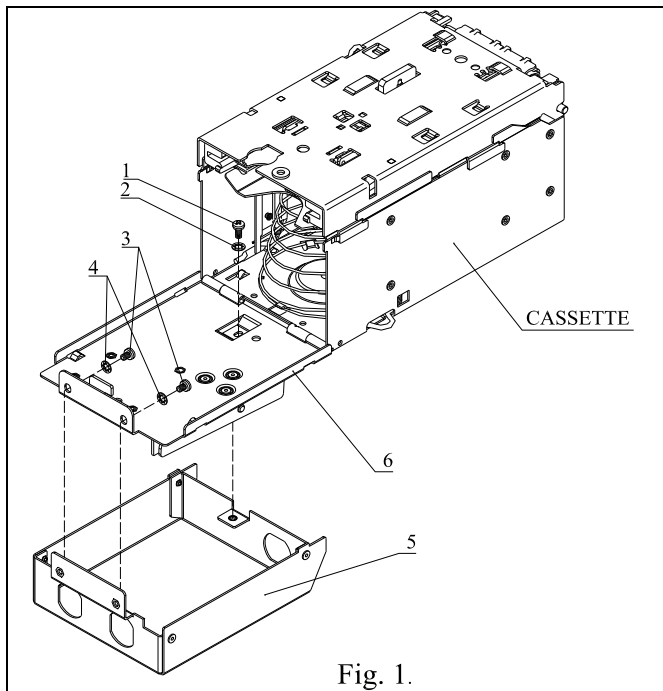

Fig. 1.
2. Remove screw #1 (M3x6) and washer #2 (Fig. 1).
3. Remove screws #3 (M3x4) and washers #4 (Fig. 1).